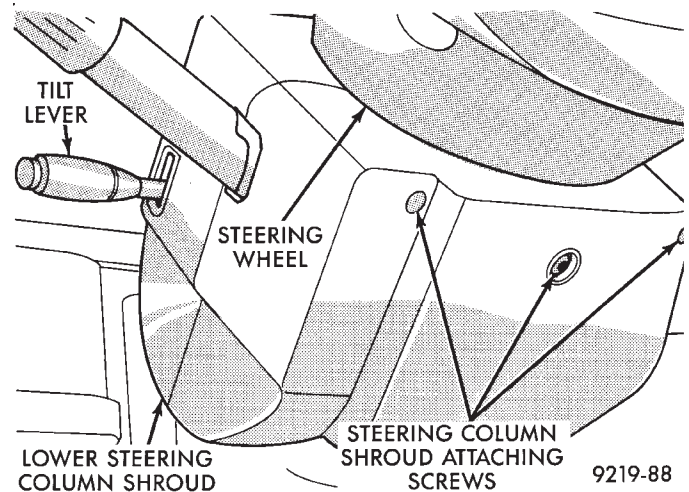

Fig. 8 Lower Steering Column Shroud
(6) Remove the 3 screws mounting the lower steering column shroud to the steering column assembly and remove shroud (Fig. 8).
(12) Install the lower steering column shrouds on the steering column (Fig. 8). Tighten the 2 lower shroud to steering column screws.